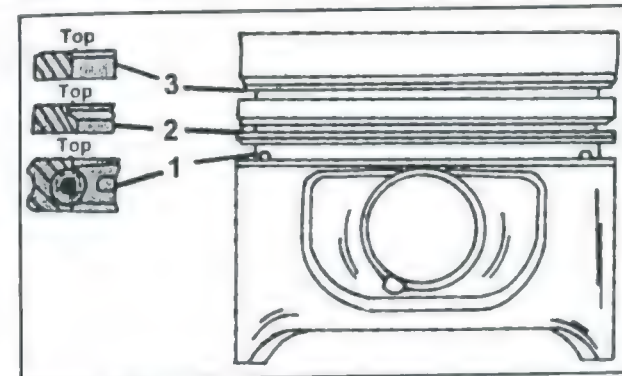

Fig. 1.40 – Sectional of a piston, concentrating on the piston rings.
- Using a pair of piston ring pliers, fit the piston rings from the top of the piston, starting with the bottom ring. The two compression rings could be mixed up and Figs. 1.40 should be referred to avoid mistakes. Under no circumstances mix-up the upper and lower compression rings.